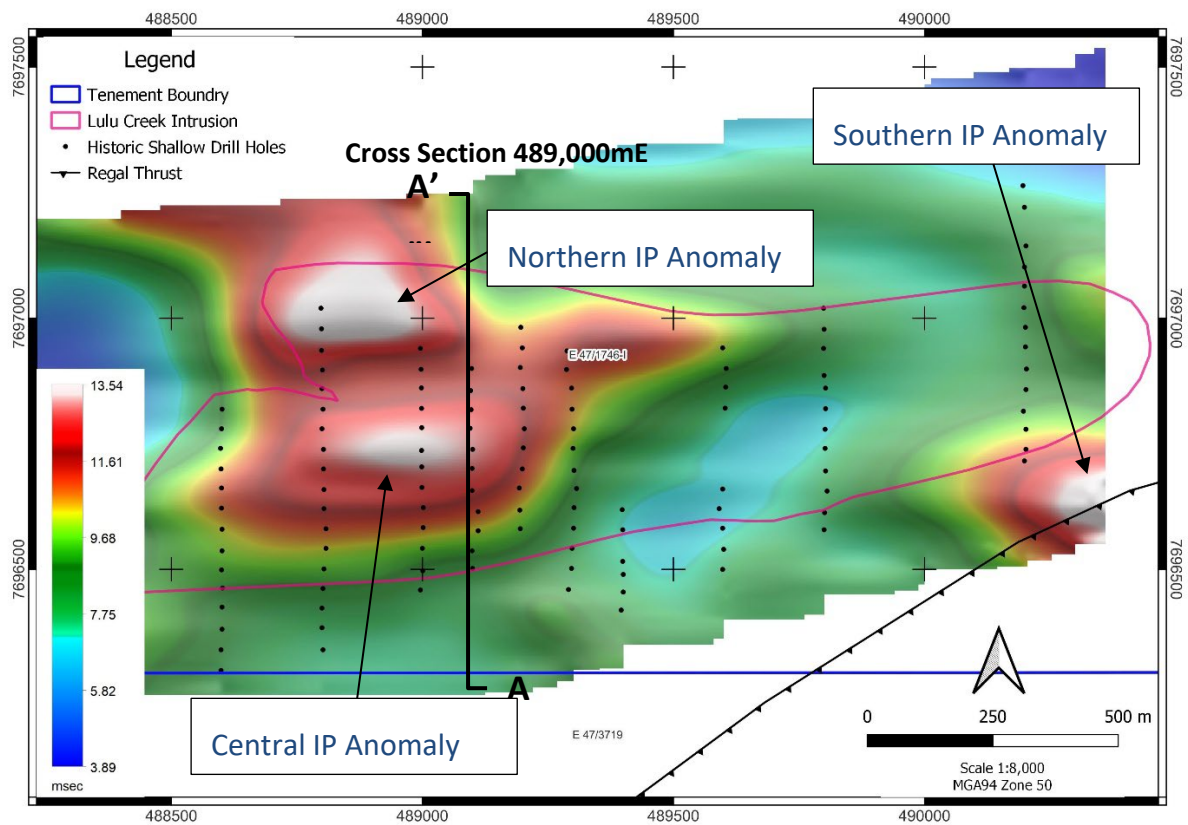

Figure 1: IP chargeability plan view -75 m below surface against Lulu Creek Intrusion outcrop outline in pink.
- Three IP chargeability anomalies have been detected from a 15-line dipole–dipole survey over the Lulu Creek Intrusion Related Gold system (IRGS) (Figure 1).
- Two chargeability anomalies form adjacent to a moderately-high resistive unit within the Lulu Creek Intrusion (Figures 1 and 2).
- While the third anomaly sits just off the intrusion and along the Regal Thrust (Figure 1)